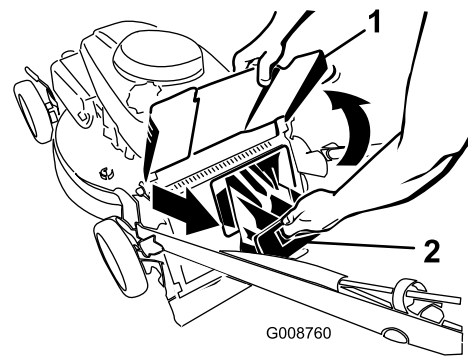

**Figure 20**
1. Route the starter rope around the lower rope guide (Figure 20).